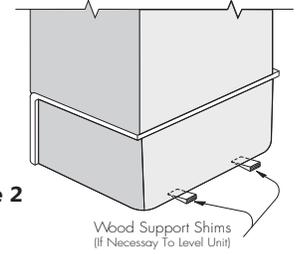

Figure 2
- These units are trimmed to be self-leveling at the factory. If the subfloor at the installation site is not perfectly level, it will be **MANDATORY** to provide shims under the back edge of the unit to level the unit. See Figure 2 if shimming is required.